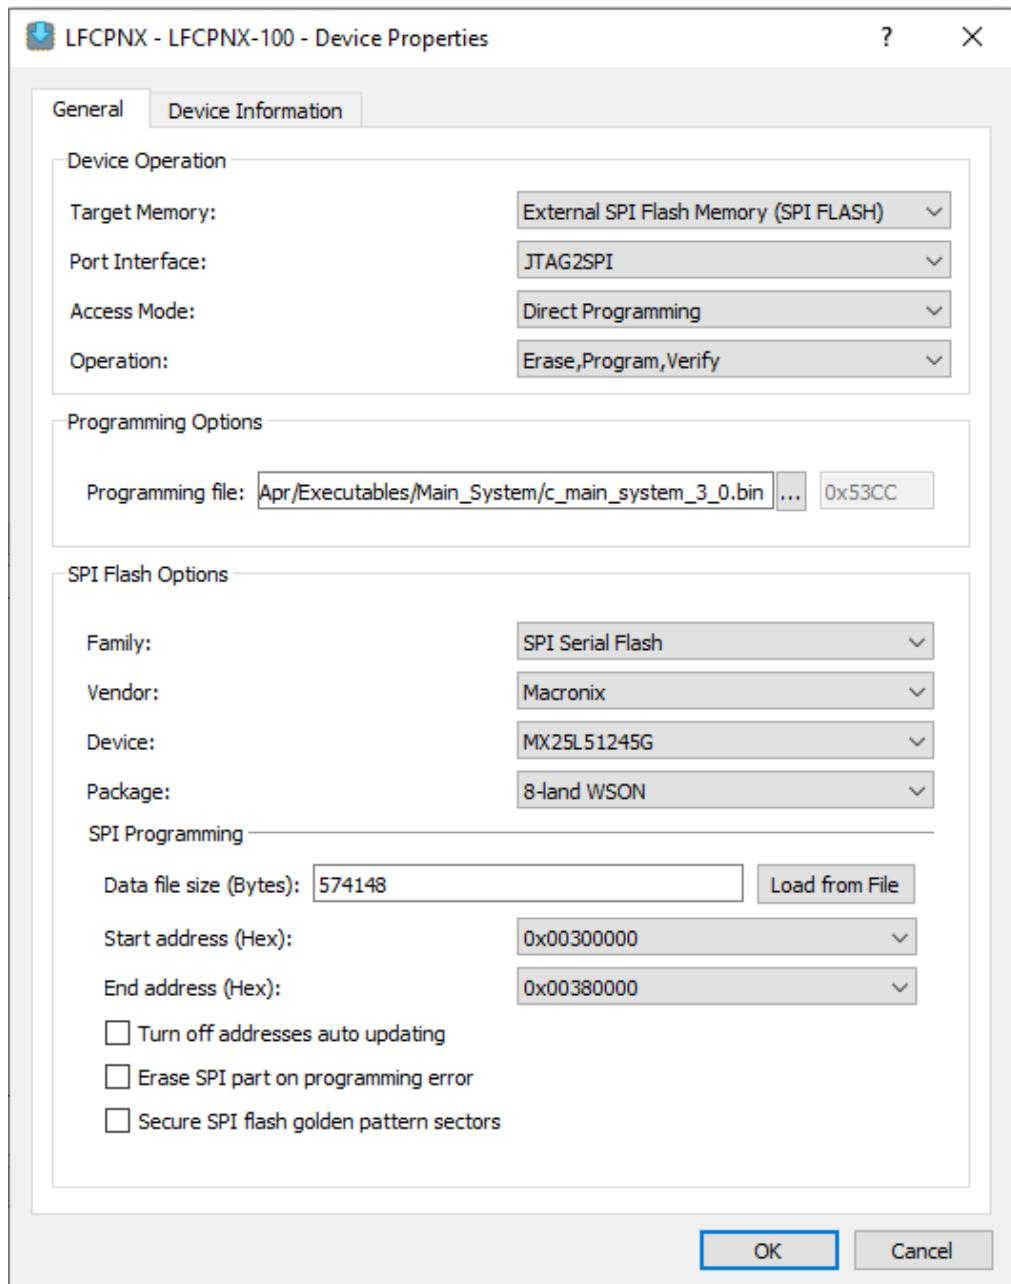

Figure B.8. Radiant Programmer - Binary Flashing Settings (Main System)
12. To program the firmware, select the options as shown in **Figure B.8**.